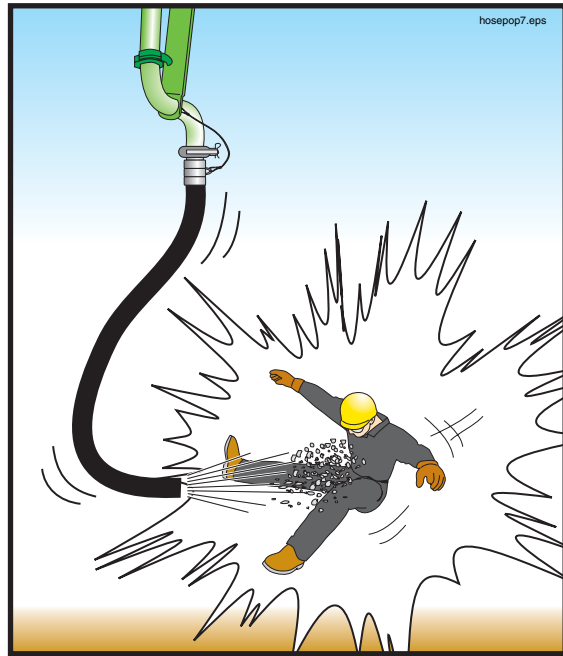

Figure 87
17.5 **⚠ WARNING** When the operator is initially priming the delivery system, restarting after moving, restarting after adding or removing pipes or hoses, or any time that air has been introduced into the delivery system, stand a reasonable and prudent distance away from the tip hose or point of discharge. Do not get near the discharge until material runs steadily and there is no movement of the delivery system. (Figure 87). Compressed air in the line can cause rubber hose to move violently. If the operator tells you that air is coming in the delivery system, proceed as follows: